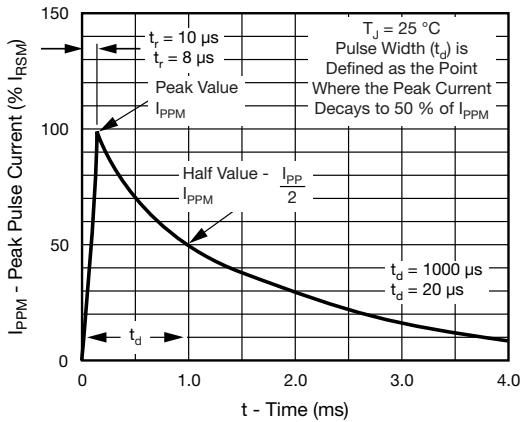
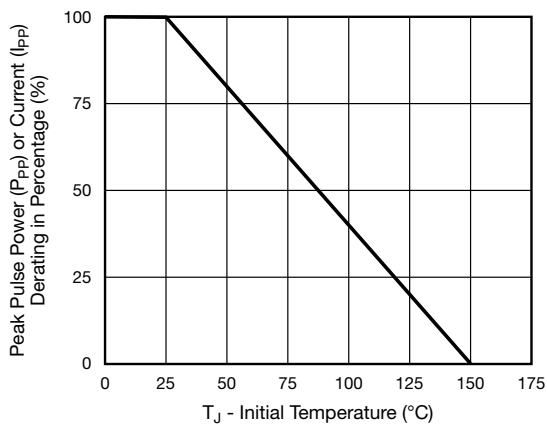

Fig. 1 - Pulse Waveform
Fig. 3 - Pulse Power or Current vs. Initial Junction Temperature
- (1) Non-repetitive current pulse, per fig. 1
- (2) Mounted on 6.0 mm x 6.0 mm copper pads to each terminal
- (3) Mounted on minimum recommended pad layout
- (1) Pulse test: tp ≤ 50 ms
- (2) Surge current waveform per Fig. 1 and derate per Fig. 3
- (3) To calculate maximum clamping voltage at surge current uses the following formula: VCL max. = RD × IPP + VBR max.